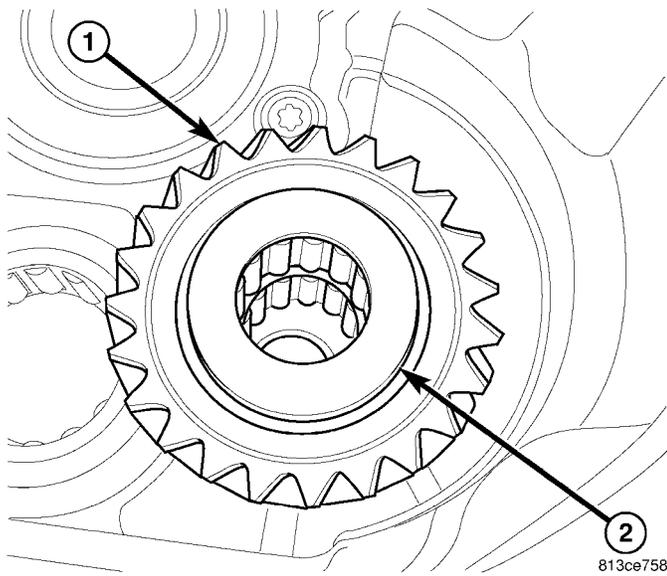

Fig. 87 IDLER GEAR THRUST WASHER
(6) Install idler gear (1) (Fig. 87) thrust washer (2) on idler gear.